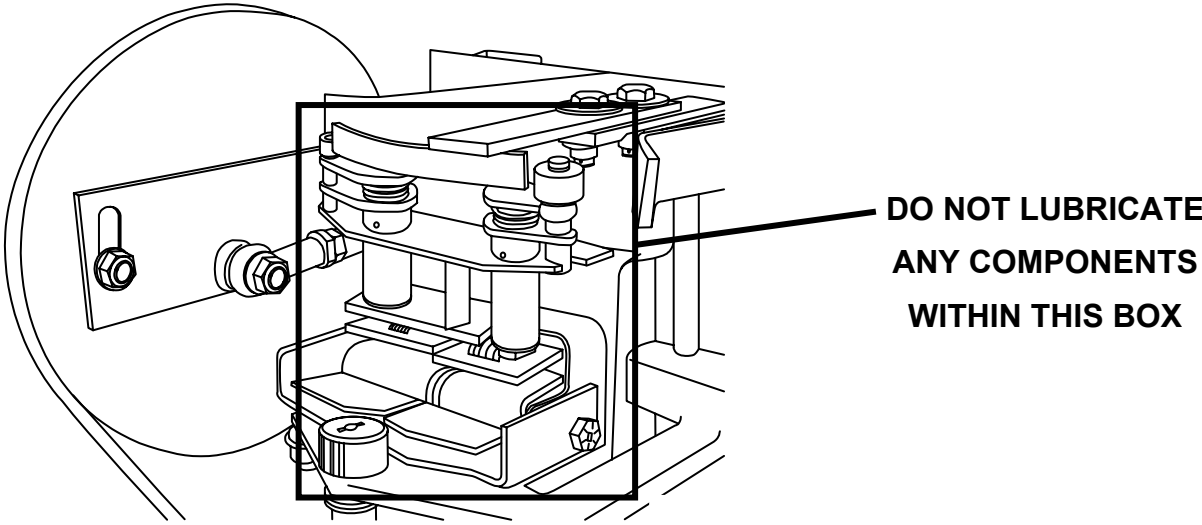

Figure 3-4
3.3.4 LIGHT BALL SENSOR - Figure 3-4